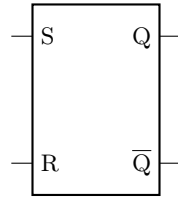

Figure 11.1: Circuit symbol of an SR latch.
Latches are feedback circuits that have stable outputs. They are asynchronous, which means that output signals update whenever there is a change in the input values. A set-reset (SR) latch has two inputs. A circuit symbol for an SR latch is shown in figure 11.1.